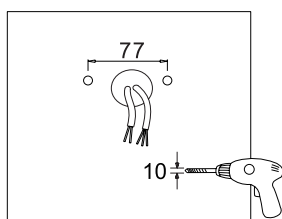

Figure 14
Step 1: Drill holes on the wall as shown. (Fig. 14)